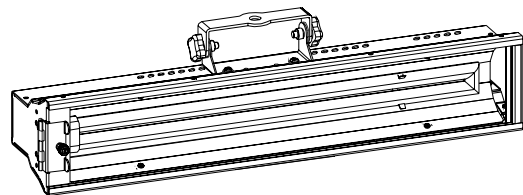

Figure 2
3. Repeat Step #2 for remaining screw and washer (Fig. 2).